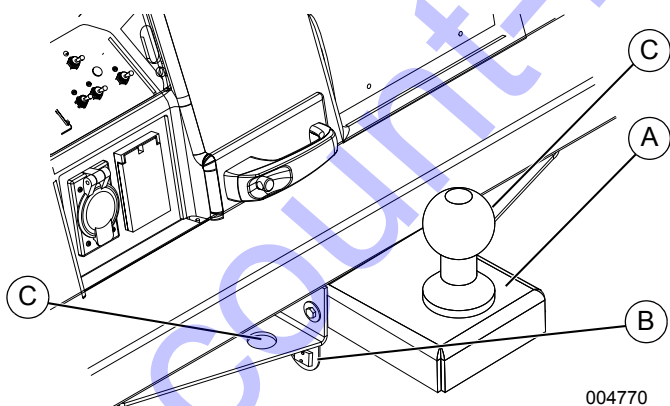

Figure 3-12. Tandem Tow
See Figure 3-12. The tandem tow hitch option (A) allows the operator to tow a second MLT6 Light Tower in series behind the unit equipped with the hitch.